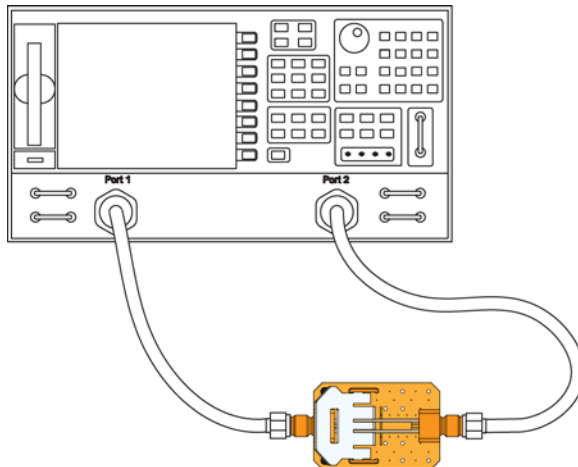

Figure 18 Forward and Reverse Setup
- 17** Connect the **PORT 2** SMA cable to the non-pincher side of PV fixture as shown in Figure 18.